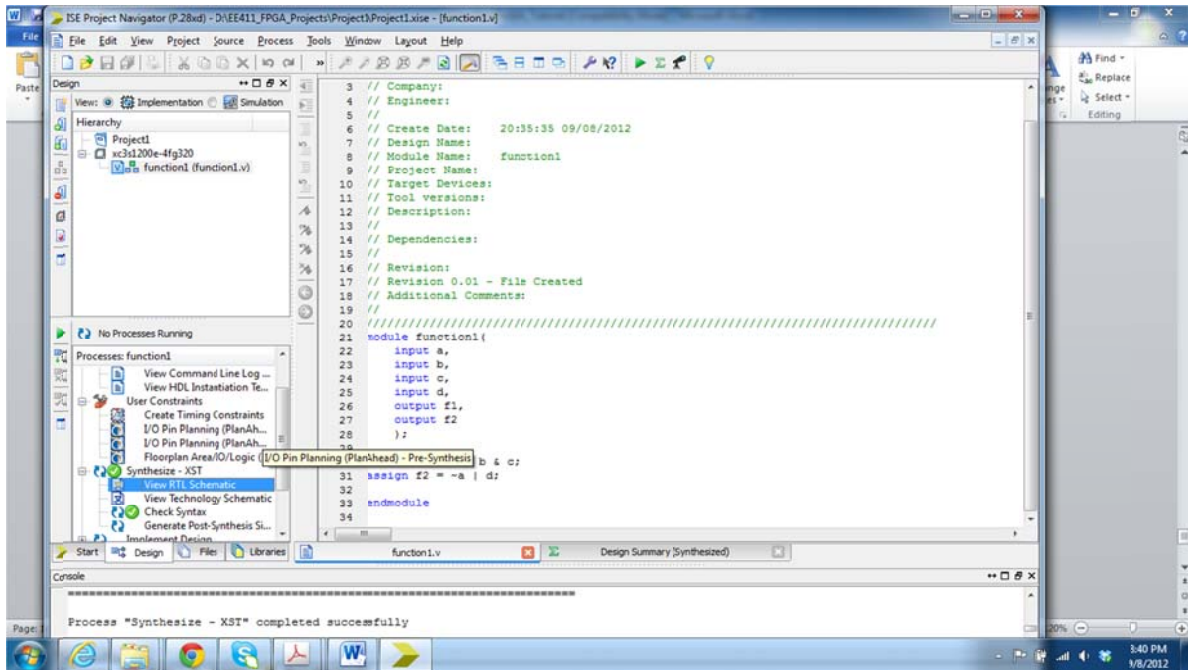

Figure 7B
8. Double click on **Synthesize-XST** to Synthesize the design (generate netlist). You should get a check if the synthesis is ok as shown in Figure 7B.